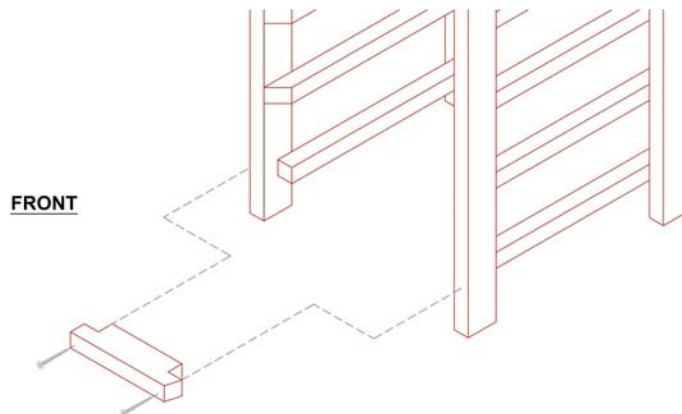

Figure 2
2. Set your ladder with the back on the floor (angled slats facing up). Insert the spacer bar by placing the two rabbets (or slots) at each end of the spacer bar over the ladder uprights at the spacer bar slat location at the bottom of your ladder as seen in (**Figure 2**). Be sure to have the angled side of the spacer bar facing inward.